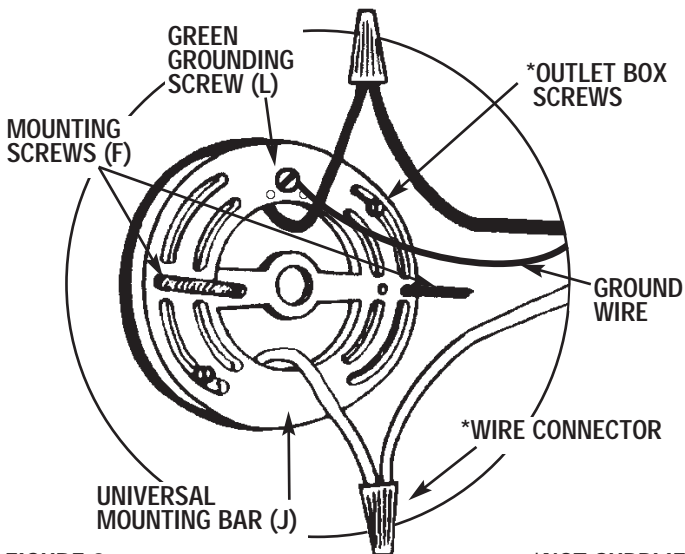

FIGURE 2
GROUNDING INSTRUCTIONS: The green grounding screw (L) is to be inserted into the hole with two raised dimples provided on the universal mounting bar (J). Wrap the ground wire from the fixture (if supplied) and the ground wire from the outlet box (bare metal or green insulated wire) around the green grounding screw (L) on the universal mounting bar (J). If uninsulated ground wire is on the universal mounting bar, connect the ground wire from the fixture (if supplied) and the outlet box to it using a small wire connector (not supplied) (See Figure 2).